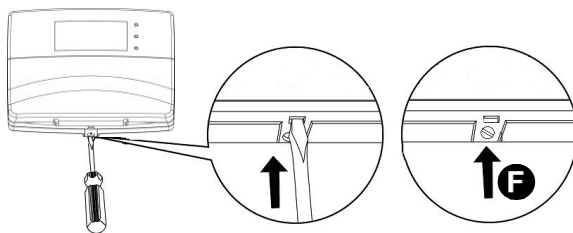

Fig. 1
Use a slotted screwdriver to open the keypad by gently pressing the point indicated in the image in order to disengage the closure spur and lift the cover (Fig. 1).
- Close the keypad by screwing the screw provided in the hole. (F - Fig. 1).